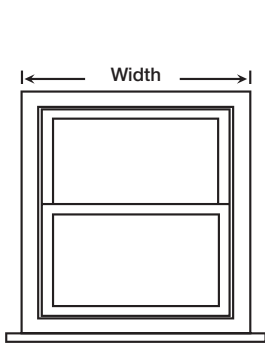

Figure 1
- 1 Measure window width including molding. Maximum available width is 168" (figure 1).